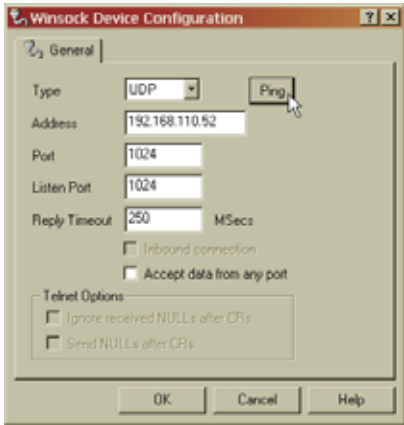

FIG. 188: WINSOCK CONFIGURATION/ENTERING HI 3000 SETUP PARAMETERS
- Step 10. If UDP is not selected, click on the Type pull down list. Click on UDP to select it. (See Fig. 188)